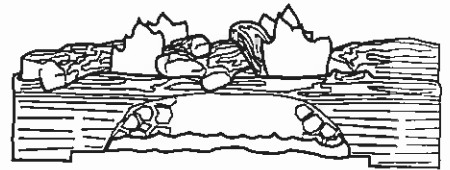

Figure 19
**Middle Ember Bed Flame Characteristics –** The rear flames should be yellow. The flames should extend about 3 – 4" above the front log for natural gas and 2 – 3" above for propane (L.P.G.) gas (Figure 19).
**Left and Right Burner –** The flames at the front burner holes will be blue becoming yellowish as they hit the bark-like texture of the base and front face of the front log (Figure 19).